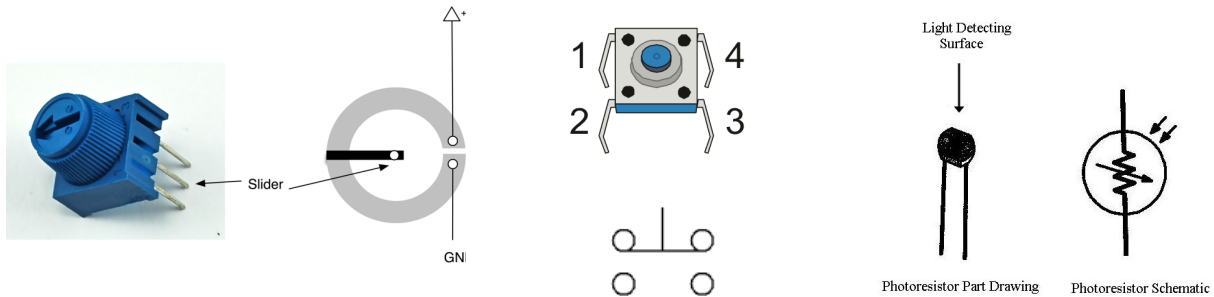

Figure 1: Potentiometer Source:
- A. Potentiometer - Build the circuit below (Figure 4) in TinkerCAD by placing a 1 k Ω resistor, an LED, and a potentiometer in series. Note that the potentiometer (pot) has three pins, as shown in Figure 1; when connected with 5 V across the outer two pins, the middle pin outputs a voltage between 0 – 5 V, depending on the position of the potentiometer knob. To wire in a potentiometer to your circuit, simply connect the middle pin of the pot to one of the outside pins. ***Optional to have the other outside pin go to ground if you wish.*